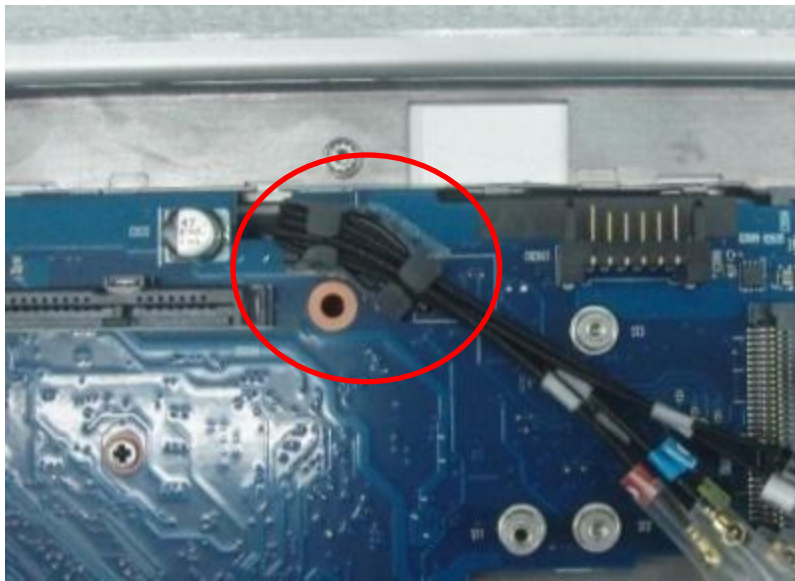

Fig.2
2. Disassemble antenna from hooks. (Fig.2)